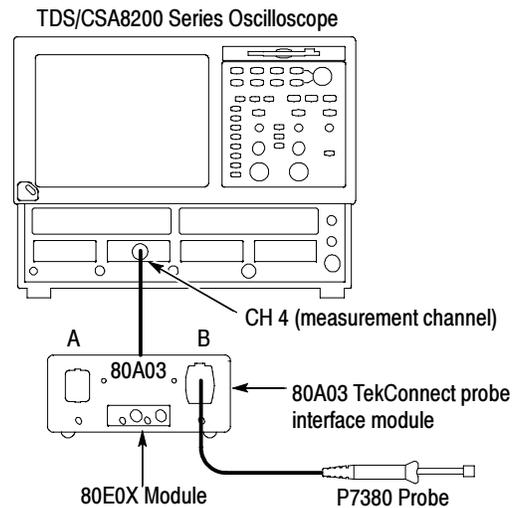

Figure 18: Preliminary test setup
1. Connect the 80A03 TekConnect probe interface to channels 3 and 4 of the TDS 8200 oscilloscope. See Figure 18.